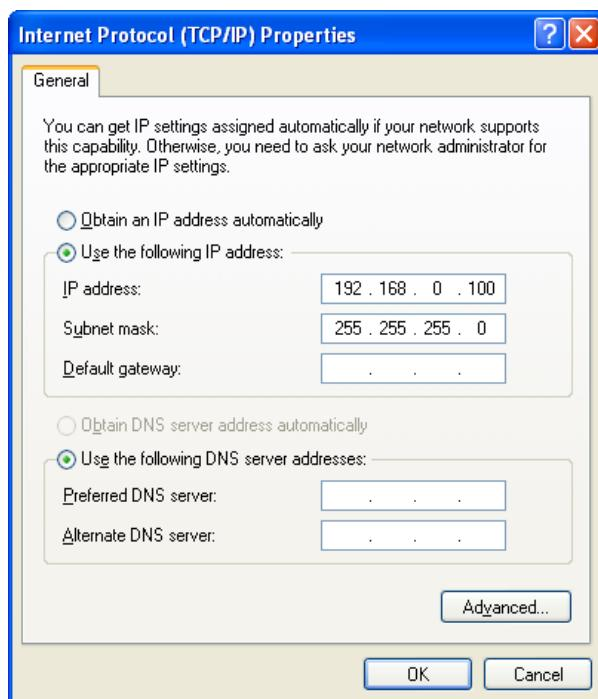

Figure 2-2: Select Network Protocol Dialog
8. Click the "Use the following IP address" radio button (Figure 2-2). The IP Address, Subnet Mask, Default Gateway, Preferred DNS server and Alternate DNS server fields, which are grayed-out, become active.